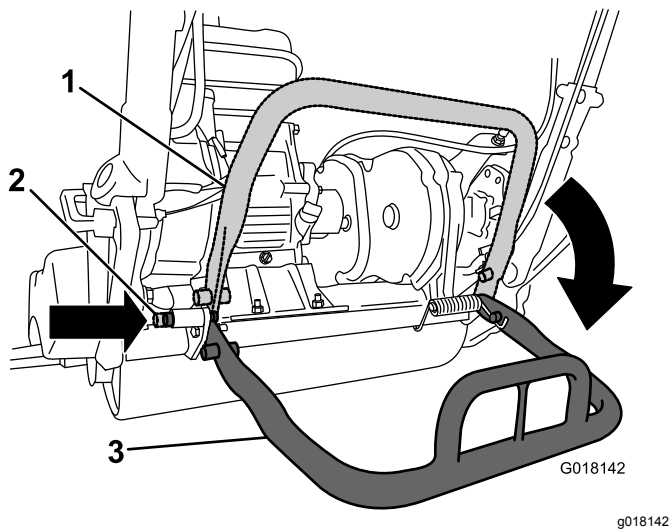

Figure 30
- To prevent the machine from tipping backward when removing the reel, lower the kickstand and push in the locking pin to lock it in the SERVICE position (Figure 30).